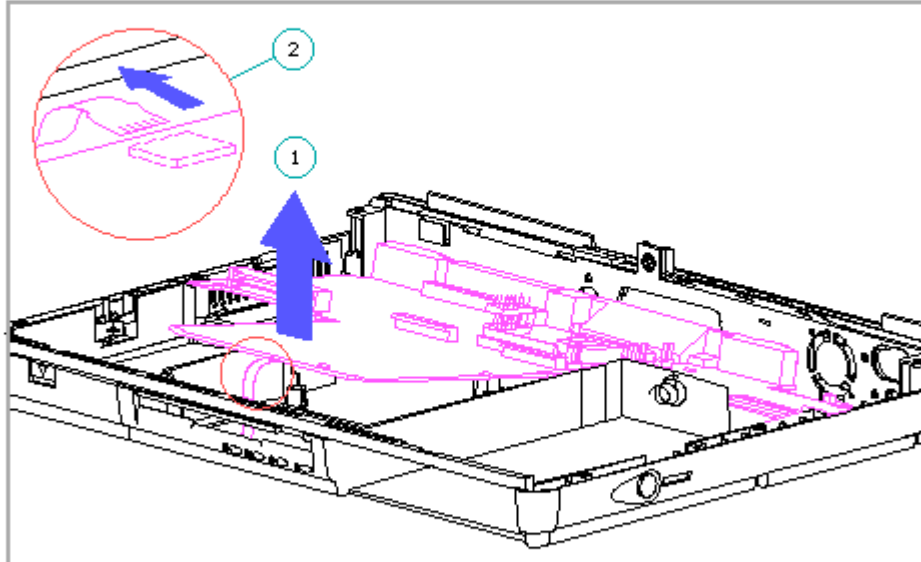

Figure 4-48. Disconnecting the LED Cable Assembly from the System Board
17. Carefully tilt the system board up [1] and unplug the LED cable assembly from the connector on the bottom side of the system board [2] (Figure 4-48).